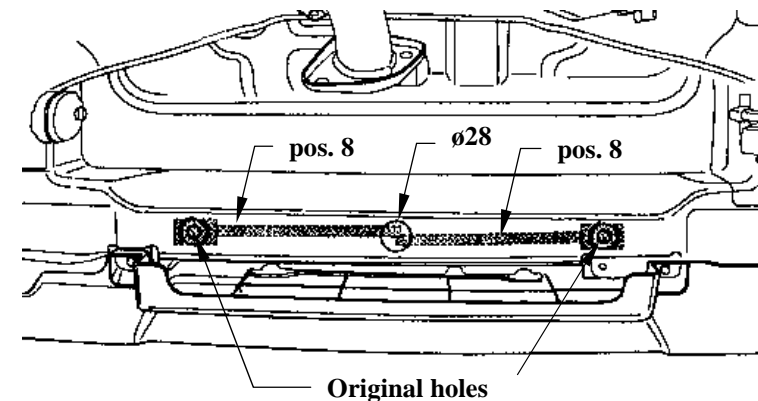

Fig. 4. Jibs placement
4. According to figure 4 drill hole $\varnothing 28\text{mm}$ underneath the car.
5. Through made hole insert nuts on the jibs (pos. 8) in this way so nuts agree with original holes. Fix loosely couplers (pos. 6 and 7) using bolts M10x35mm (pos. 14). Remember to put washer M14 (pos. 17) between couplers and frame of the car.
6. Hole X blind using rubber plug (pos. 23).
7. Fix main bar of the towing hitch (pos. 1) to the frame of the car using bolts M12x1,25x30mm, M12x1,25x40mm and using bolts M12x1,25x50mm through handles (pos. 4 and 5). On the right side on the handle pos. 4 fix original towing eye.
8. Fix tow-ball (pos. 2) and socket plate (pos. 3) by bolts M12x75mm (pos. 9) from equipment.